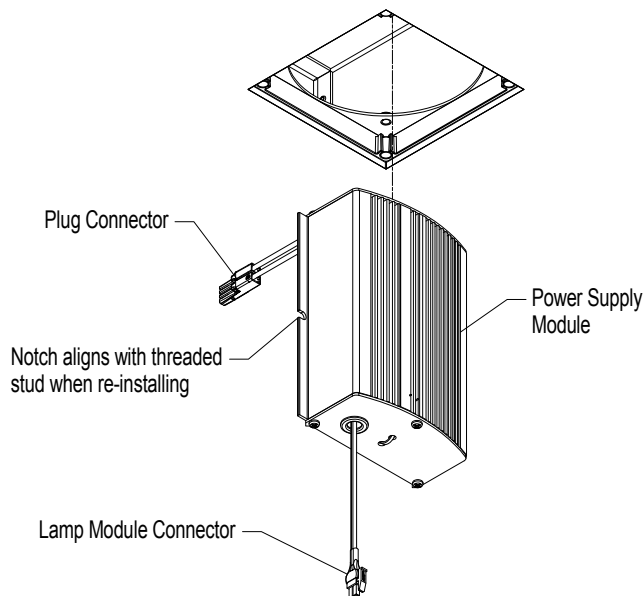

FIG 5.3 Pass Power Supply Module Through Aperture
Step 5 Pull Power Supply Module through aperture-FIG 5.3.